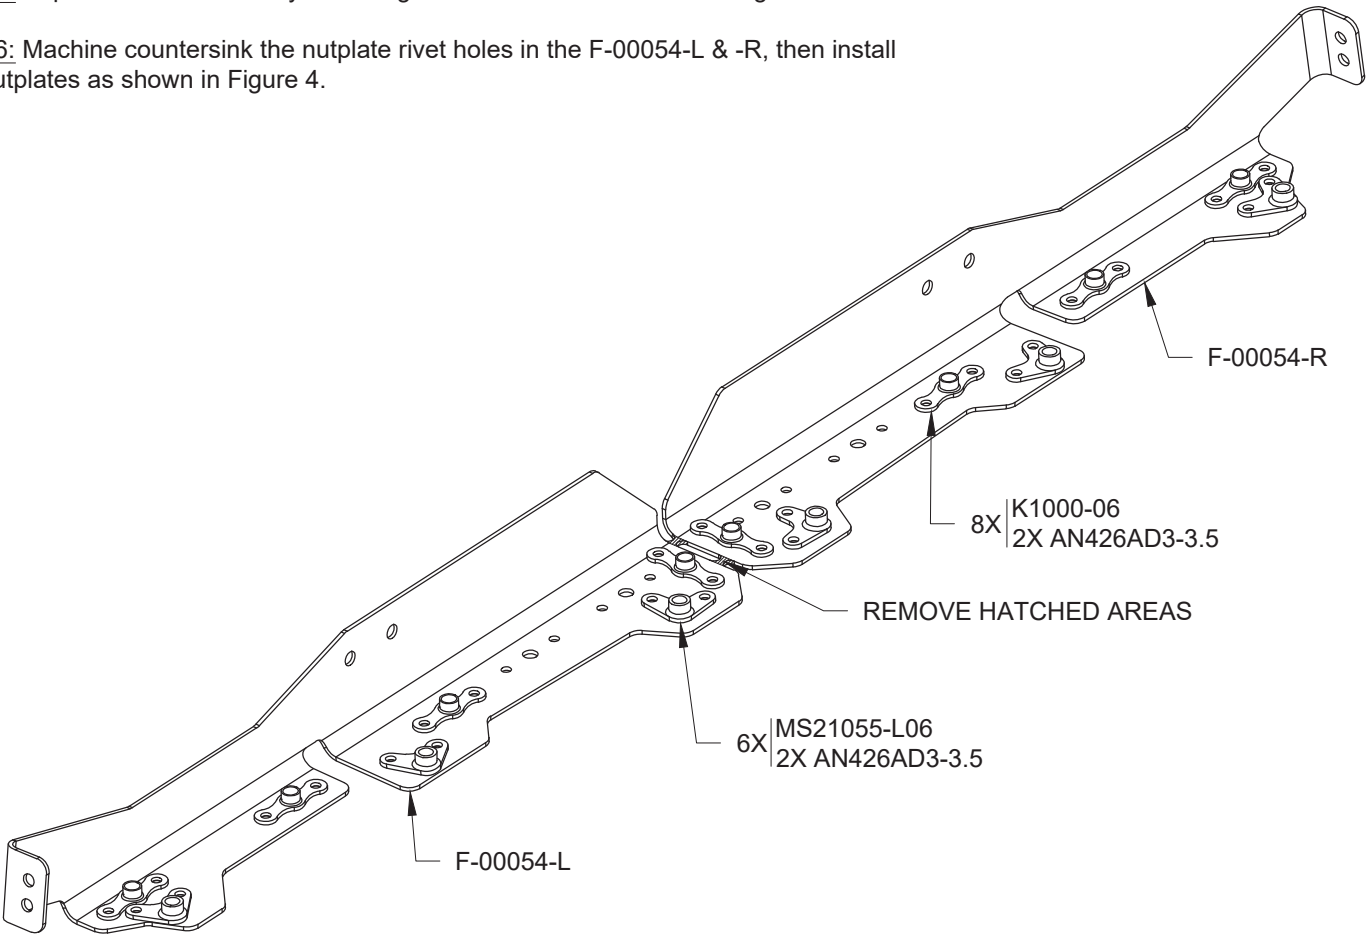

FIGURE 4: PREPARING THE F-00054 BRACKETS
Step 5: Separate the F-00054 by removing the hatched areas shown in Figure 4.
Step 6: Machine countersink the nutplate rivet holes in the F-00054-L & -R, then install the nutplates as shown in Figure 4.